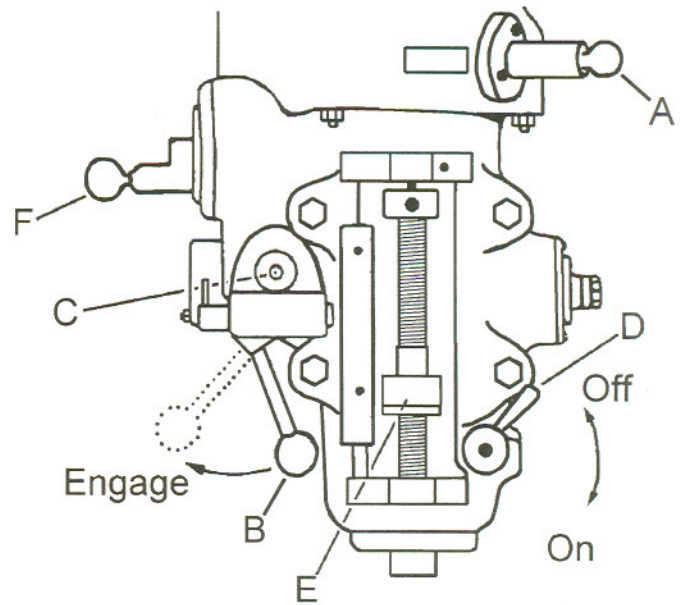

Fig.8
1. Disengage power feed by pulling out knob (A, Fig. 8) and moving lever to the right hole.
2. Locate the feed reversing knob (C, Fig. 8 & 9) in the center or neutral position.
3. Engage feed control lever (B, Fig. 8) by pulling away from the head assembly.